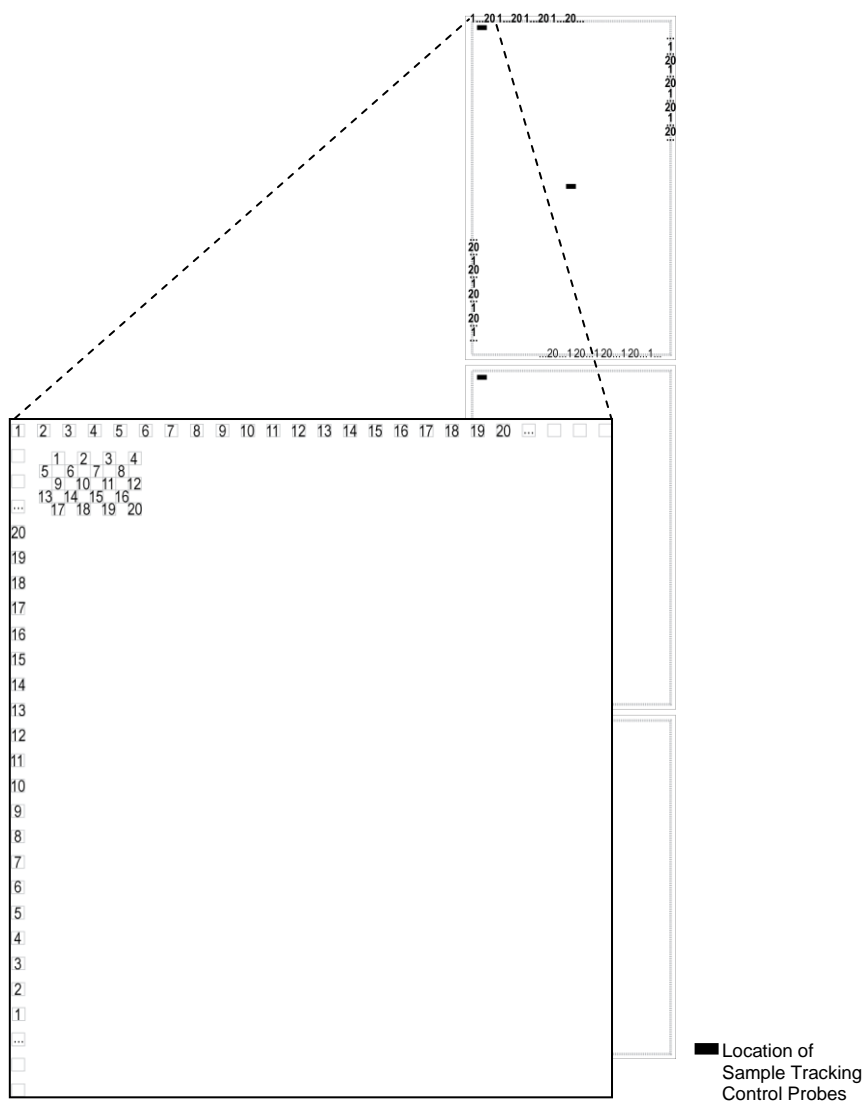

Figure 17: Location and Numbering of Sample Tracking Control Probes on a 3x720K Array
As noted in this guide, you should add a unique STC to each experimental (IP) and control (input) sample pair prior to loading onto multiplex arrays as described in Chapter 4, Step 1. This control hybridizes to probes on the microarray and enables you to confirm the sample identity on each array and ensure integrity of the experiment. STC probes are placed as repeating sets of 20 along the perimeter of each array and as two 4 x 5 blocks in the upper left corner and in the center of the array (Figure 17).